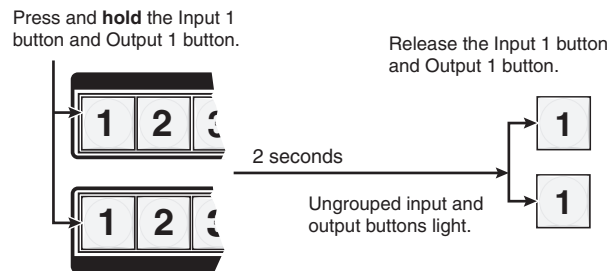

Figure 3-29 — Select I/O Group mode
2. To enter *I/O Group* mode, press and **hold** the Input 1 and Output 1 buttons for approximately 2 seconds and then release the buttons (figure 3-29).